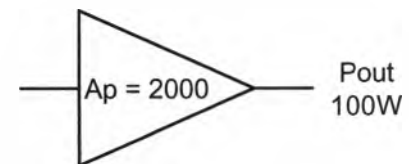

Figure 11
34. What is the input power of the amplifier in Figure 11?